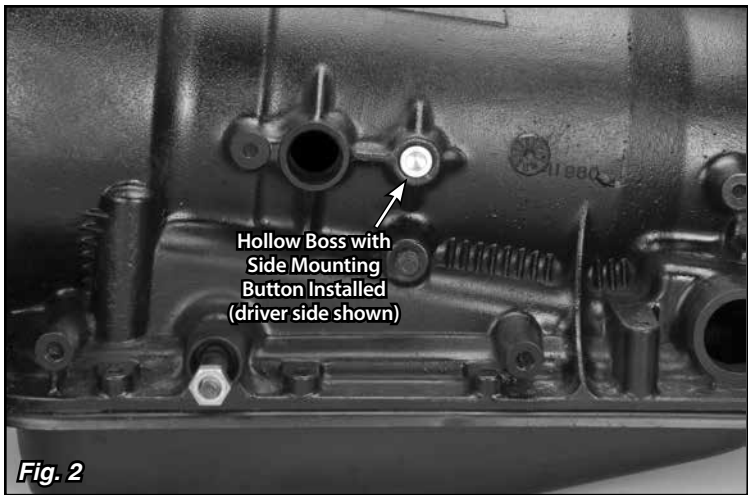

Fig. 2
Step 2: In the Lokar Shifter Kit you are supplied with two aluminum side mounting buttons approximately 5/8" in diameter. Your transmission has two round, hollow bosses cast into the case, one on the driver side and one on the passenger side. Clean any paint or debris out of these bosses, and install the side mounting buttons into the bosses with the flat side in toward the transmission case. **Fig. 2**